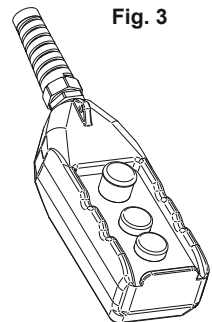

Fig. 3
5) The pendant controls have three pushbuttons (fig. 3):